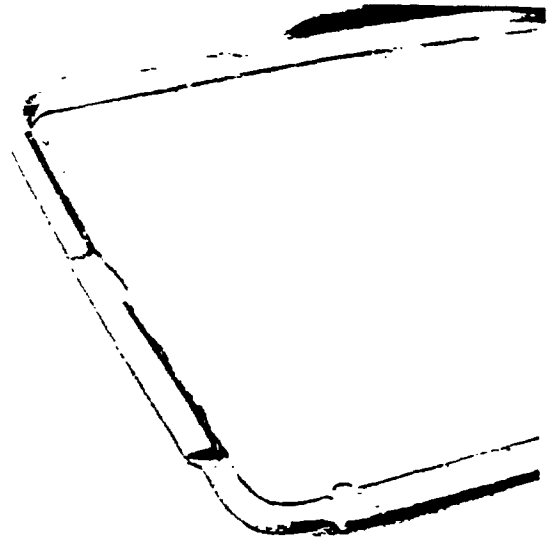

Figure 2-398. Applying Agent to Gasket
4. Run a bead of silicone rubber bonding agent on the four sides of the new gasket. See Figure 2-398.